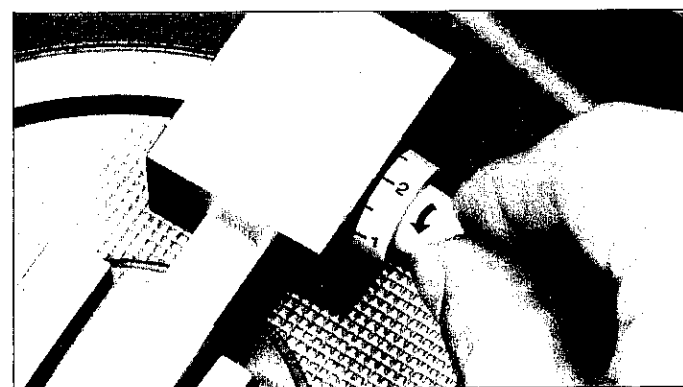

Figure 14
6. Consult the cartridge instructions to find the tracking force recommended by the cartridge manufacturer. Rotate the tracking force adjustment knob in the direction of the arrow as shown in the figure 14, till the desired force aligns to a mark on the counterweight.